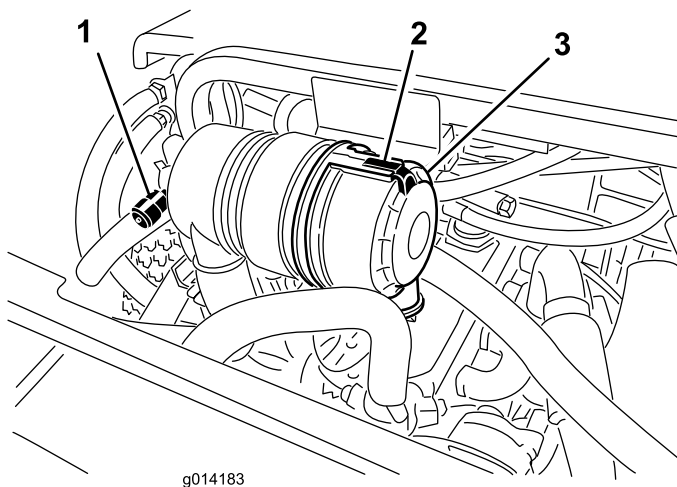

Figure 32
Service the air cleaner filter only when the service indicator (Figure 32) requires it. Changing the air filter before it is necessary only increases the chance of dirt entering the engine when the filter is removed.
1. Release the latch securing the air cleaner cover to the air cleaner body (Figure 32).